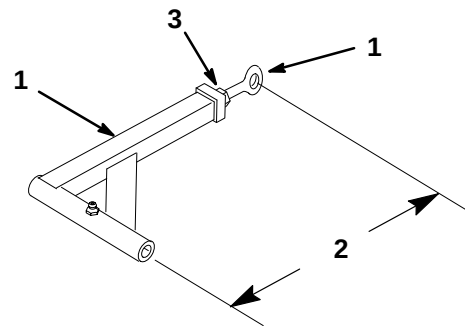

Figure 52
9. If the fixed idler contacts the end of the adjustment slot and more belt tension is required, a small change in the length of the push arms can be made (Fig. 52).
10. To adjust push arms, loosen jam nut and rotate ball joint counterclockwise, one turn at a time. Adjust each side the same amount (Fig. 52).